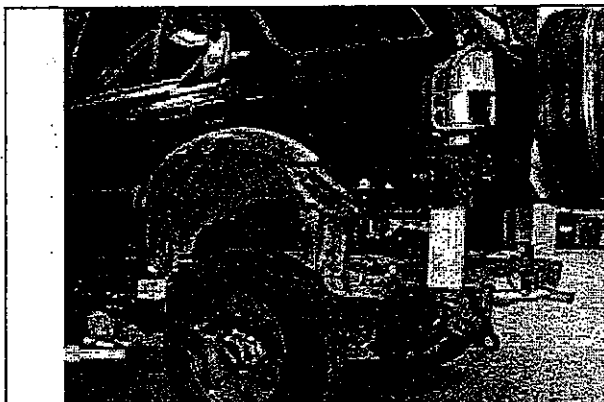

Figure 38
10. Using wooden blocks, support the body off of the frame at body mount #5 and #4. Body mount #5 should be 10.25 inches (260 mm) above the frame and body mount #4 should be at least 6.9 inches (175 mm) to allow access for the following steps. See Figures 38 and 39.